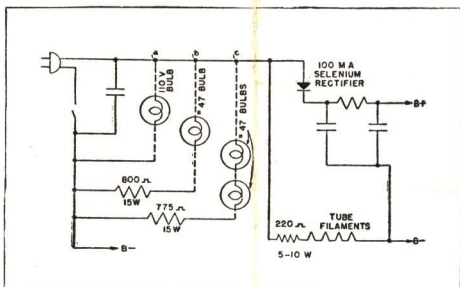

Fig. 7—Three alternative pilot light circuits when replacing a 35Z5 with a 100 MA Selenium Rectifier.
a) Using a 110 V bulb across the input (Fig. 7).
b) Using one #47 pilot light in series with an 800 ohm, 15 watt resistor across the line input (Fig. 7).
c) Using two #47 pilot lights in series with a 775 ohm, 15 watt resistor across the line input (Fig. 7).